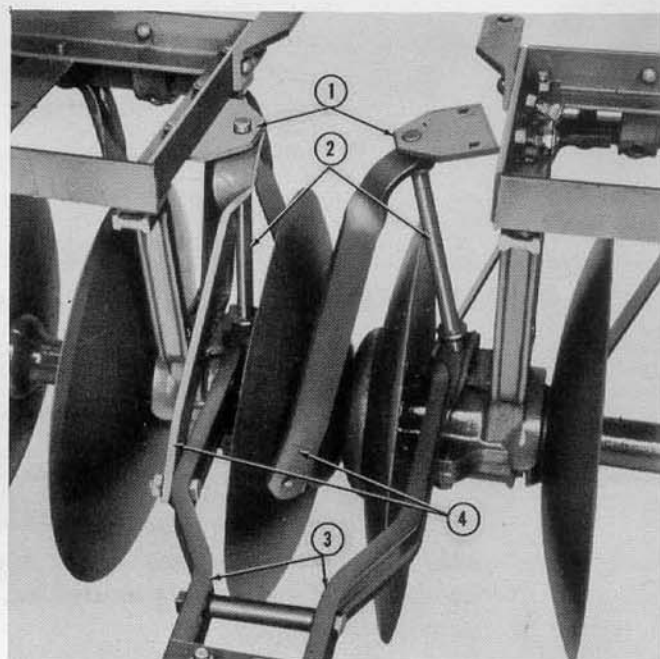

Figure 4
2. Remove draft pin plates (1) and draft pins (2), Figure 4, from each of the front gangs.
3. Align holes in the fork ends of middle draft bar (3) with holes in bearing boxes and insert large end of draft pins.
4. Position draft bar braces (4) (marked "Right" and "Left") on draft bar pins and bolt lower ends into position on draft bar as shown in Figure 4.